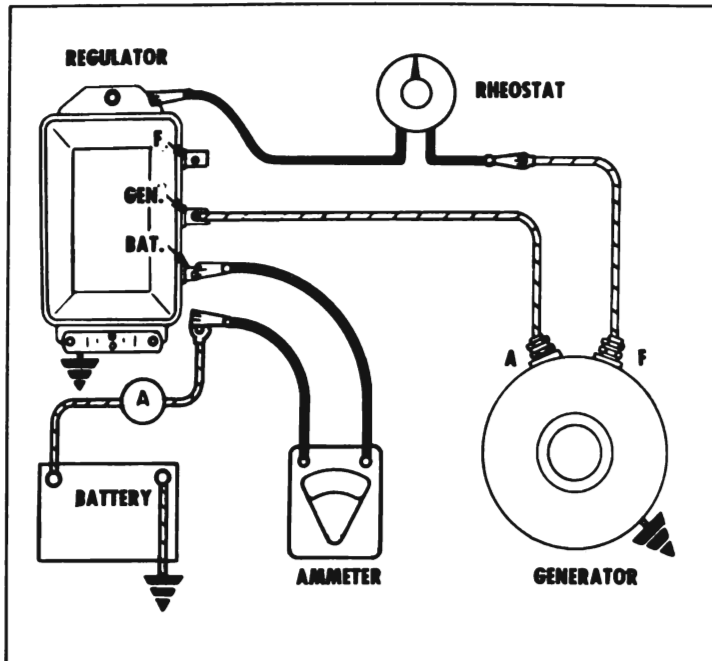

Figure 10-11—Testing Generator Output
See Figure 10-11. Turn variable resistance to the "open" position.
2. Disconnect battery lead from regulator "Bat" terminal. Connect test ammeter red lead to "Bat" terminal and ammeter black lead to battery lead. See Figure 10-11.
1. Make sure that all accessories are turned off and that ammeter and field rheostat are in place. See Figure 10-11.